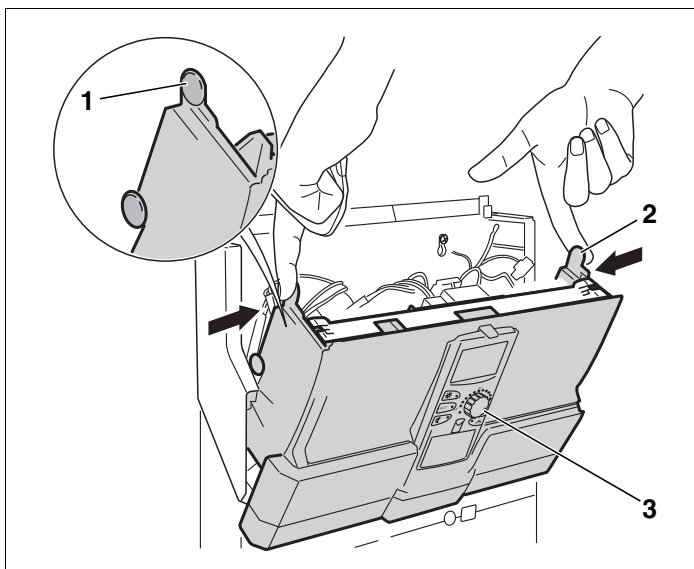

Fig 3 Pivoting down device front
- Press in upper nubs (→ Fig. 3, [1] and [2]) on both sides.
- Fold out forwards the device front with the Programmer (→ Fig. 3, [3]).